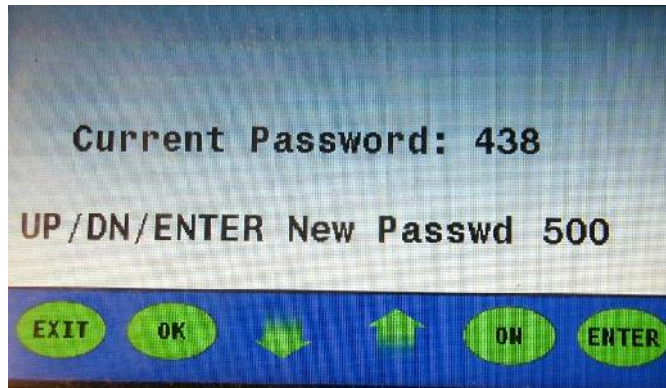

Figure 15
- Press the “UP” arrow to set the first number of the new password **(Figure 15)** (Note: DN can be used to decrease the number)